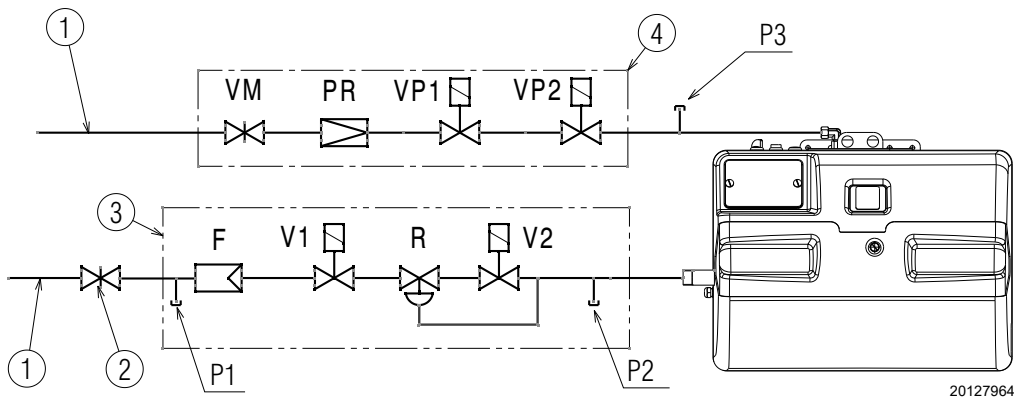

Fig. 22
- Key (Fig. 22)
- filter (replaceable) (F)
- pressure adjuster (R)
- manual valve (VM)
- pressure adjuster (PR)